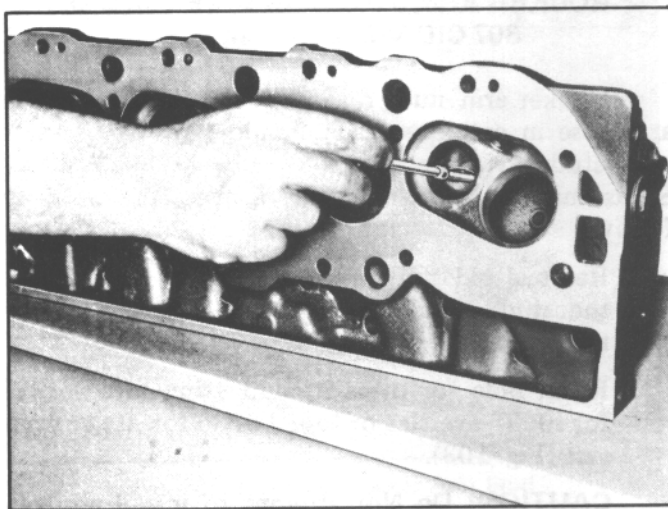

Fig. 98. Cleaning Valve Guides
2. Thoroughly clean the valve guides using tool J-8101 (Fig. 98).